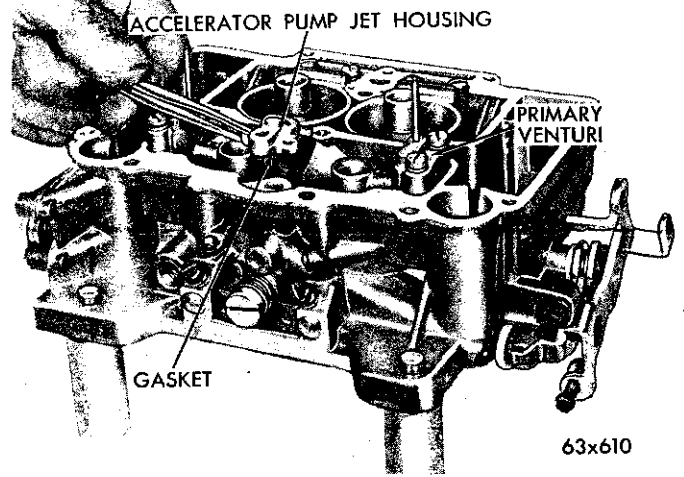

Fig. 6—Removing the Pump Jet Housing
(1) Remove the accelerator pump jet housing screws, then remove jet housing and gasket, as shown in Figure 6. Invert the carburetor and drop out the discharge check needle.